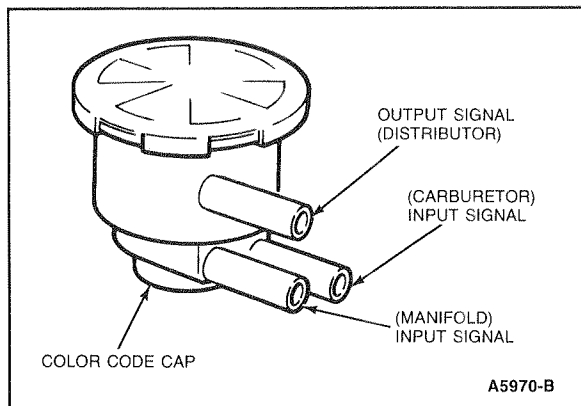

Figure 1 3-Port Vacuum Regulator
1. Remove the vacuum line from distributor port, and install a vacuum gauge (Figures 1 and 2).